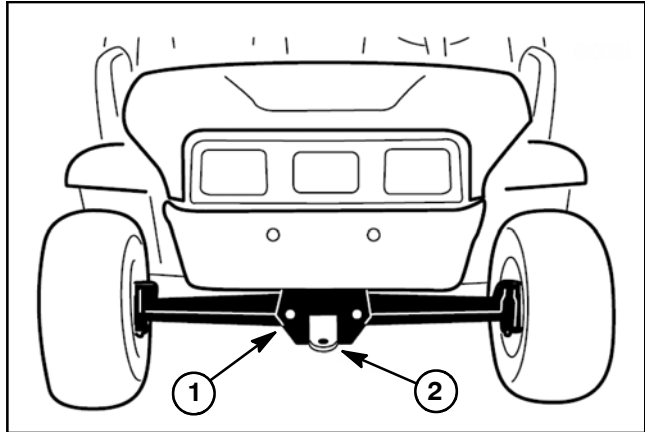

Figure 1
1. Jack front of the vehicle on the front of the frame and behind the towing tongue (Fig. 1).